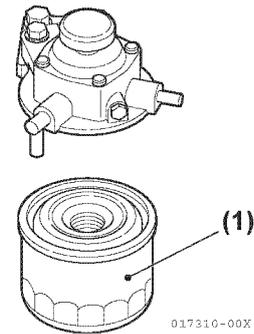
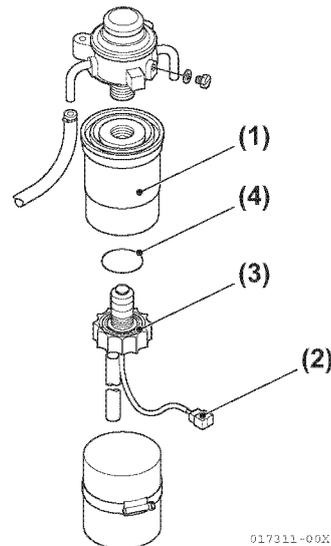

**Figure 6-42**
**Figure 6-43**
3. Loosen the drain plug (**Figure 6-42, (2)**), (**Figure 6-43, (1)**) on the bottom of the water separator and drain off any water or dirt.
4. 4JH4-TE / 4JH4-HTE: Disconnect water sensor connector (**Figure 6-43, (2)**).
9. Ensure drain plug (**Figure 6-42, (2)**) and (**Figure 6-43, (1)**) is securely tightened.